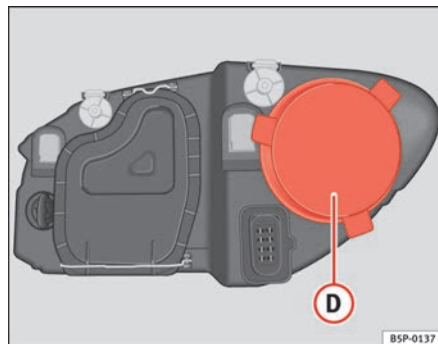

Fig. 188 Side lights
- Remove the cover ⇒ fig. 188 ① by pulling on this.